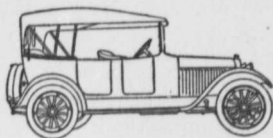

FIG. 2.
- FIG. 2.—The Chalmers Touring Car. A fine example of a low priced car. Price \$1,050, 5 passenger, 6 cylinder, 30 horsepower.